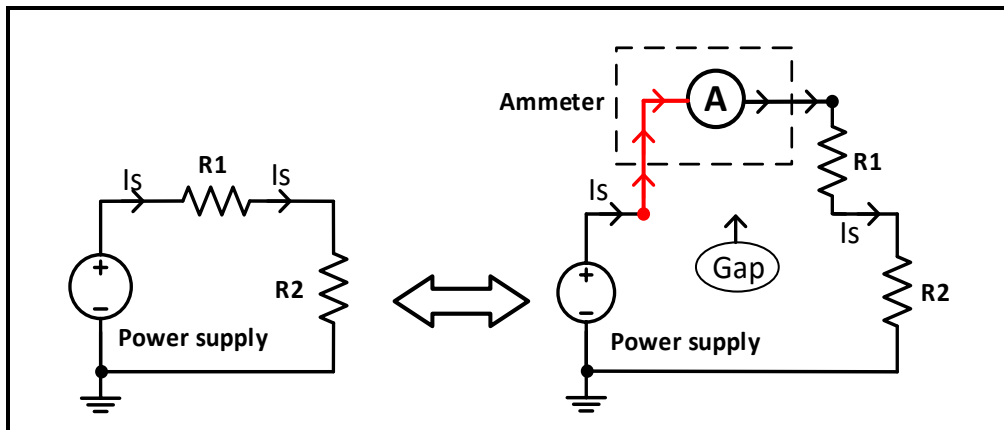

Figure 1.8: Multimeter connection to measure current.
- **Selecting suitable range** for voltage measurement is done in the same way for resistance measurement. Note that the unit of measurement is (mV) or (V) depending on the selected range.
- An ammeter is connected **in series** with the element in the circuit through which you want to measure the current. This means, for example, if you want to measure the current through a cable between two devices, you will have to disconnect that cable, and reconnect it through the meter, as shown in figure 1.8.